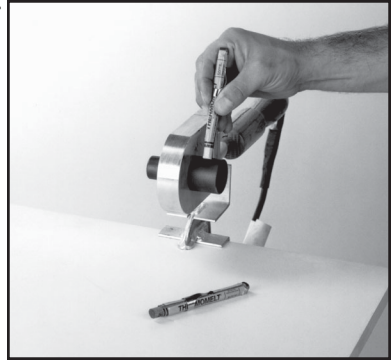

Figure 2
- Check the heater temperature with Tempstick® crayon indicators (Vanguard part number FHS500 and FHS525) or surface pyrometer often to make sure the thermometer or other temperature measuring device is reading accurately. (See Figure 2) Under heavy use conditions, or during cold or windy conditions, check the temperature more frequently.